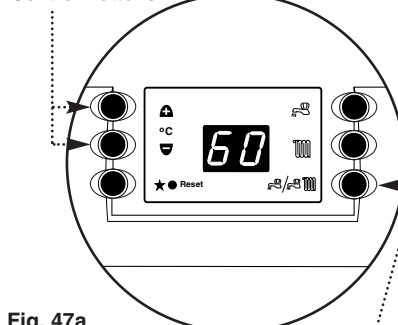
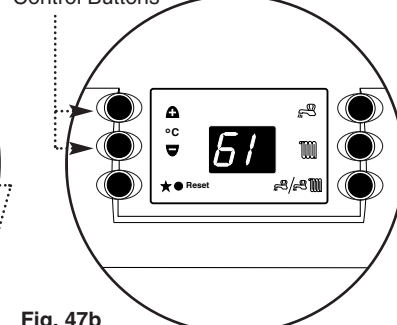

Fig. 47a
Fig. 47b
1. For optimum efficiency, this boiler can be controlled by an optional control accessory, the Baxi Intellistat (Part No. 247495). To activate the Intellistat, the boiler installer parameter No 6 requires switching from "60" to "61" (Figs 47a & b).
3. Press the Summer/Winter Mode Button marked () until the display shows "60" (Fig. 47a). The "6" indicates that the installer parameter for switching on/off the Intellistat has been selected. The "0" indicates that this parameter is switched off. Press the "+" Temperature Control Button so that the display shows "61" (Fig. 47b). The "1" indicates that the installer parameter for activating the Intellistat is switched on. One minute after the parameter has been set, the display will revert to the normal operation.